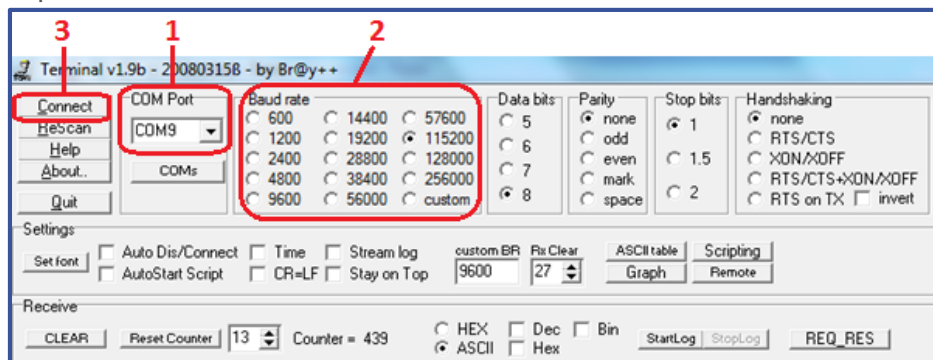

Figure 3
- STEP 10:** Using the diagram shown in Figure3, fasten the brackets with the 4 or 6 screws suited to your LCD Display type.
- Open up the terminal program mentioned from earlier and locate the setup port which will appear as a COM port. Select the correct COM port from the drop down menu as shown in figure 3 box 1. The correct COM port should be the last one on the list from the drop down menu.
The default BAUD rate for setup is 115200 and the BAUD rate for info is 19200. These can be selected from the pre-set figures shown in figure 3 box 2 above. *Note - A BAUD is a unit used to express the speed of transmission of electronic signals, corresponding to one information unit or event per second.*
- Now click connect, highlighted in figure 3 box 3 above.